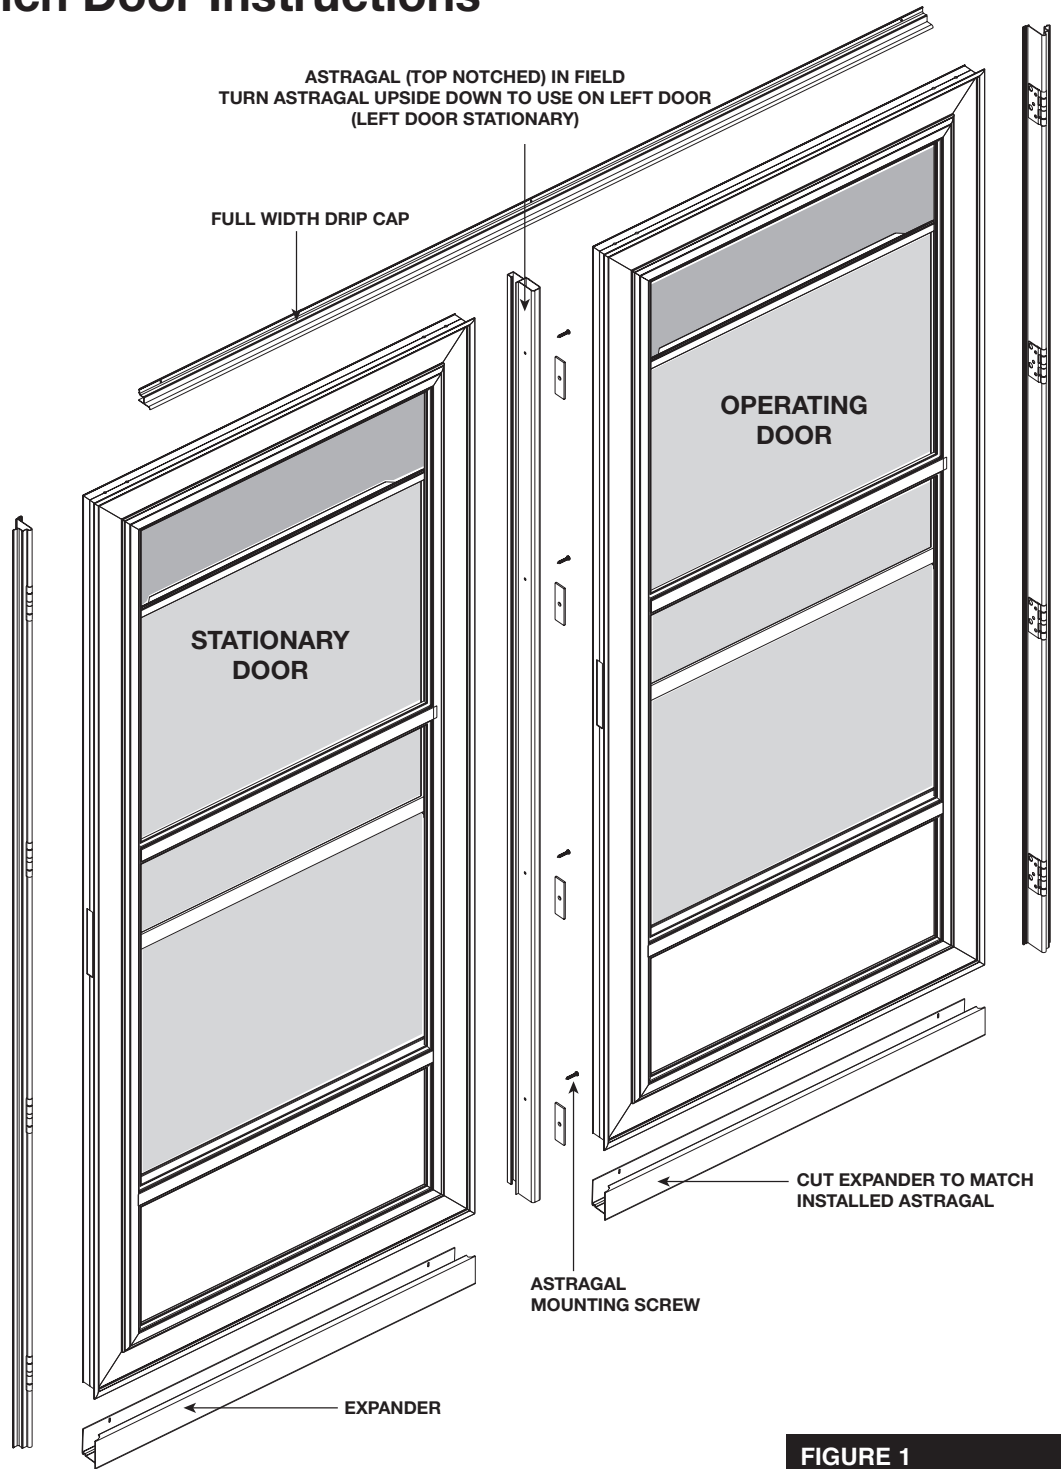

FIGURE 1
10. Adjust astragal to assure it's not twisted and weatherstripping is contacting operating door before fastening. Fasten astragal to stationary door using four (4) #8x1" panhead screws (Figure 1). 1/8" pilot holes are required. Drill outside holes to 3/8" for screws to pass through. **Be sure screws go into stationary door panel.**
11. Cut off the back side of stationary door's expander to match the installed astragal (Figure 1).